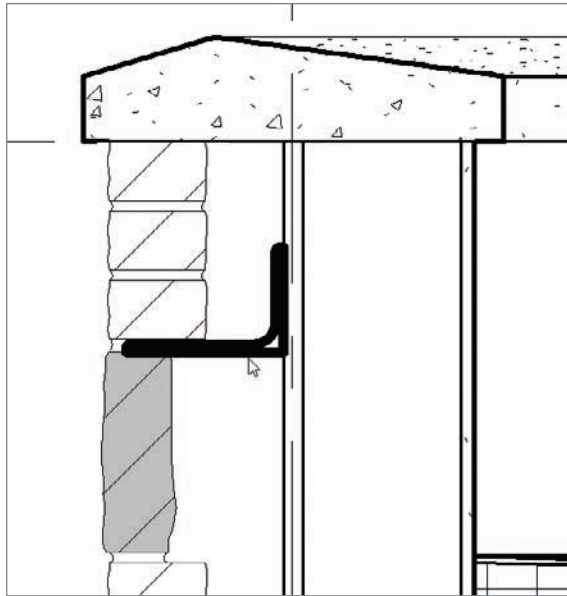

FIGURE 12.37 Placing the L6X4X5/16 angle
9. Place it into the model as shown in Figure 12.37.